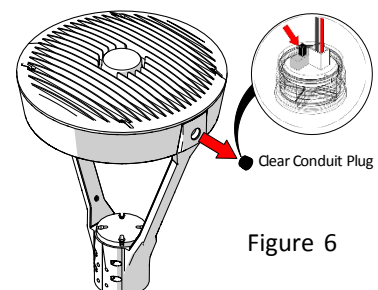

Figure 6
7. Remove the clear conduit plug to access photocontrol settings [Figure 6]. Secure tightly to prevent water ingress after adjusting.